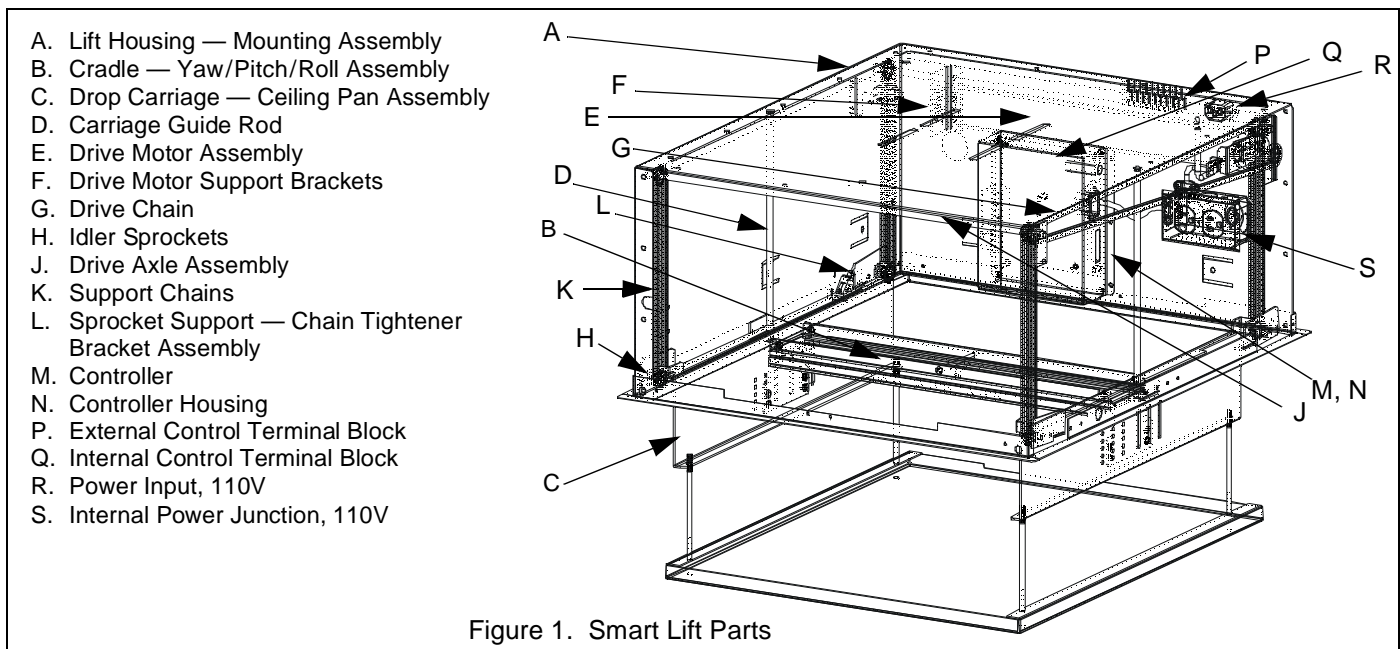

Figure 1. Smart Lift Parts
3. Connect the momentary push button cable's leads to terminals #6 and #1 and add a jumper wire (electrical wire about 4 in. long with 1/4 in. stripped at each end) between terminals #2 and #5 on the same terminal block (see Fig. 1, Item P).